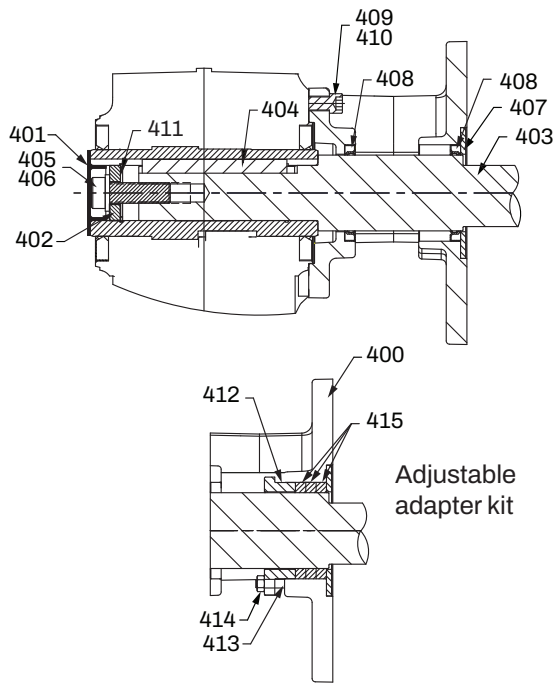

Figure 1 - Screw Conveyor Adapter Assembly
1. Install seals (408) into adapter housing as shown in Figure 1. If the optional packing adapter is to be used, install only one seal in the small end of the adapter. Use extreme care when installing seals to avoid damage to the seals. Press or tap seals into place by applying pressure only on the outer edge of the seal. Make sure seals are installed evenly and are not tilted.
2. If using the optional packing adapter, install the two studs (413), retaining ring (412), and two nuts (414). Thread the nuts onto the studs about 4-5 threads. Install the three braided type seals (415) in a circular direction into the adapter cavity. Shoulder the braided seals against the adjustable retaining ring (412). To aid in installation of the driveshaft in step 7, the braided seals can be flattened out slightly with a soft hammer prior to installation. When installing the braided seals, offset the joints from one another.
3. Lightly tap the large washer (407) into the counter bore on the large end of the adapter to seal the braided material installed in Step 2 or the seal installed in Step 1.
5. Position screw conveyor adapter (400) on the reducer output hub so that the small end (end with 6 through holes) rest on the reducer.
6. Place six adapter screws (409) and lock washers (410) through the adapter and thread into the reducer. Tighten four cap screws (409) to the torque specified in Table 1.